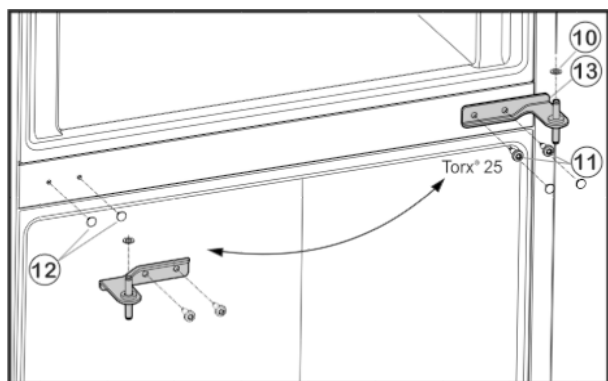

Fig. 5
- Carefully pull off the covers Fig. 5 (12) and fit to the opposite side.